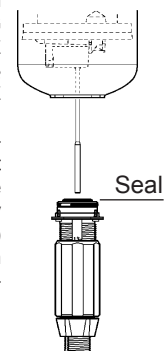

Fig. 7
- 1 - When using soluble products to be made up into solutions, we recommend the periodic dismantling of the entire injection part (see : § CLEANING AND REFITTING THE SUCTION VALVE § CHANGING SEALS IN THE INJECTION ASSEMBLY). Thoroughly rinse all the elements of the injection part with water and re-assemble them after having previously lubricated the seal (Fig. 7) with a silicone lubricant, in the case of difficulty in re-fitting.